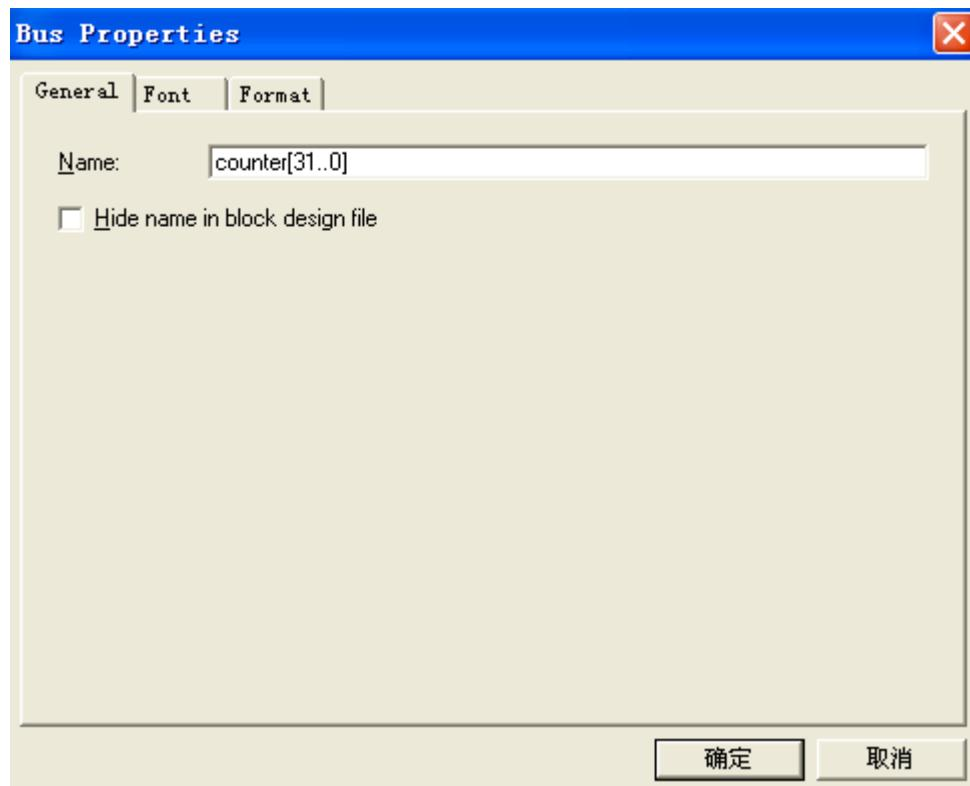

Figure 3-20 Change the output BUS name
- j. Type counter [31..0] as the bus name (see Figure 3-20). The notation [X ..Y] is the Quartus II method for specifying the bus width in BDF schematics, where X is the most significant bit (MSB) and Y is the least significant bit (LSB).